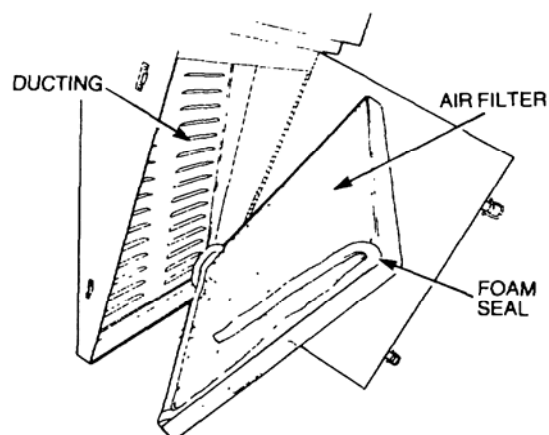

Figure 12 Air Filter Removal
- c. Pull the bottom of the filter until the plastic surround clears the lower edge of the door frame (refer Figure 12).